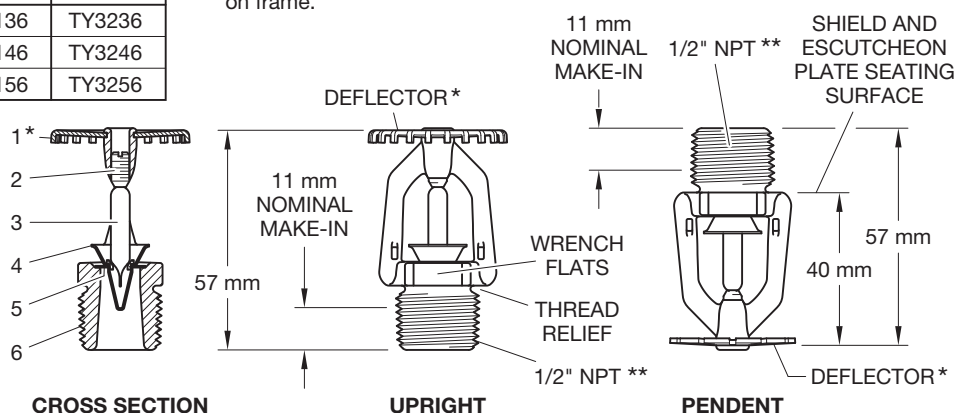

FIGURE 2
Step 2. With the Clips loose, first spread the two halves of the Sprinkler Guard just enough to pass by the sprinkler deflector from the side. Then, once again spread the two halves of the Sprinkler Guard just enough to pass over the Thread Relief portion of the sprinkler. (Ref. Figures 2 and 3)
Step 4. Tighten the sprinkler into the sprinkler fitting using only the W-Type 7 Recessed Sprinkler Wrench (Ref. Figure 11). The wrench is to be applied to the sprinkler wrenching area shown in Figures 2 or 3, as applicable.
Step 4. Tighten the sprinkler into the sprinkler fitting using only the W-Type 7 Sprinkler Wrench (Ref. Figure 11). The wrench is to be applied to the sprinkler wrenching area shown in Figures 2 or 3, as applicable.